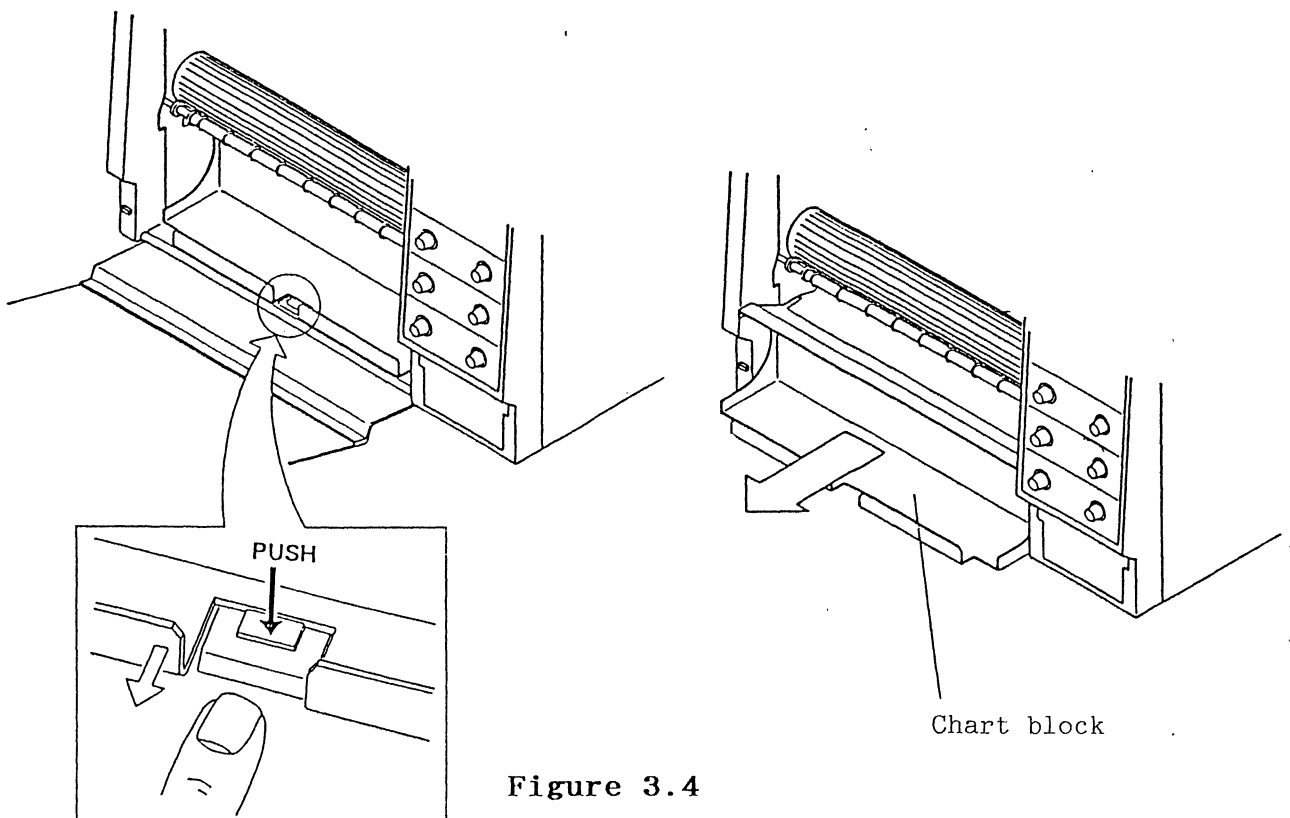

Figure 3.4
- (2) Open the acrylic cover to your side and press the chart block lock lever. This causes the chart block to move forward. In this case, the pens retract themselves to the pen rest. (Figure 3.4)